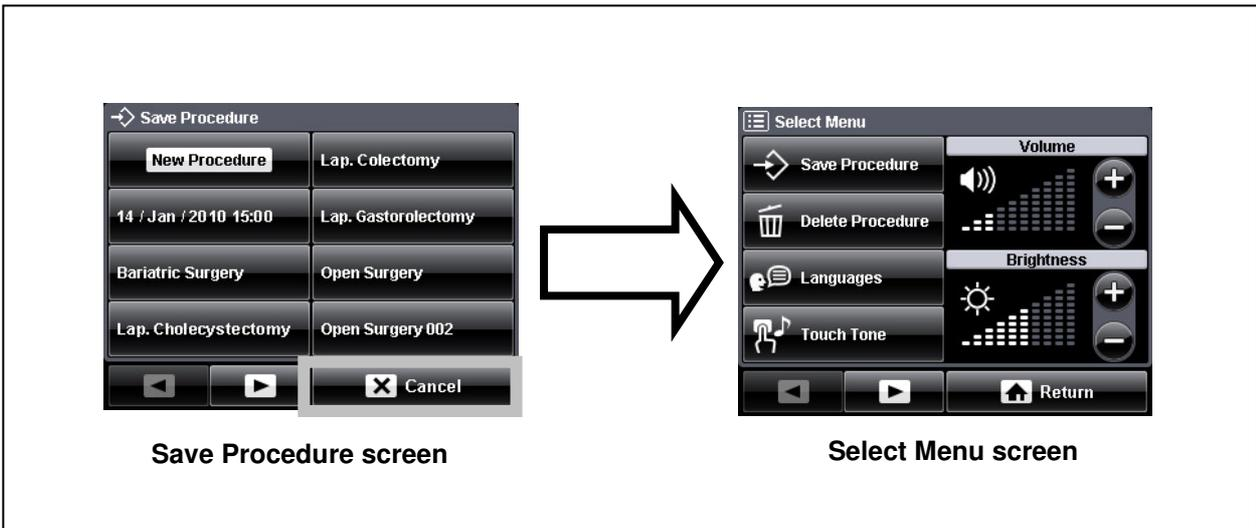

Figure 6.11
- Press the “Cancel button” on the “Save Procedure screen” and the display returns to the “Select Menu screen” (see figure 6.11).